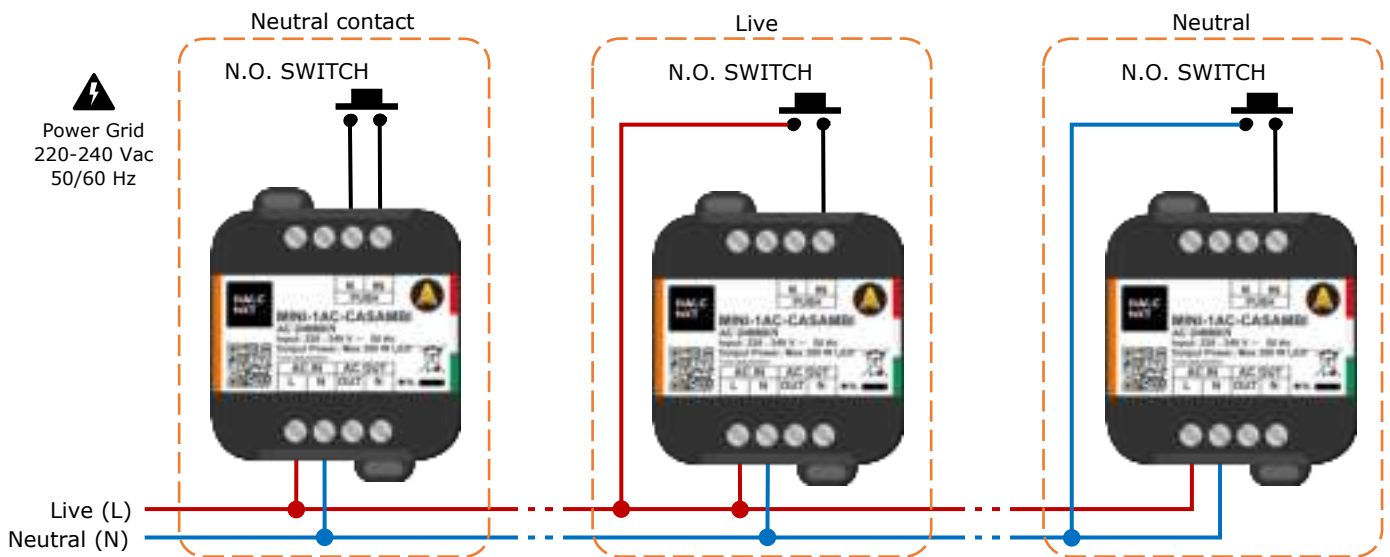

Figure 3: Local Command wiring diagram
2. **Local control wiring:** connect the N.O. button to the "IN" and "N" terminals of the "PUSH" input respecting one of the wirings shown in the connection diagram in Figure 3.
3. **Power supply wiring:** Connect the 230 Vac @ 50 Hz mains power supply to the "AC IN" terminals respecting the Live (L) and Neutral (N) convention to terminals "L" and "N" respectively.
Figure 3 shows three different wiring possibilities for the local control: N.O. switch connected as a Neutral (N) contact, connected to Live (L) or Neutral (N).
**ATTENTION!** The PUSH-N terminal is internally connected to the AC IN-N terminal, i.e. to the Neutral (N). Therefore, it is to be considered to all intents and purposes a terminal with a 230 Vac mains voltage. Before proceeding with the connection, make sure that the mains voltage is disconnected from the system.